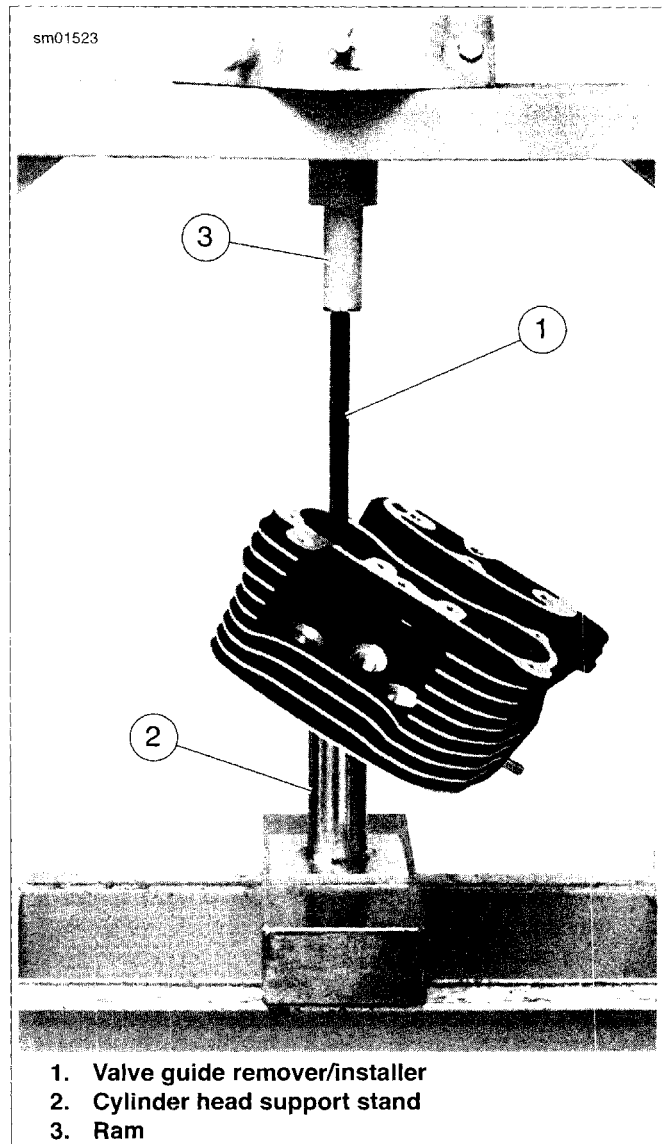

Figure 3-124. Removing Shoulderless Valve Guide
2. See Figure 3-124. At top of the cylinder head, insert VALVE GUIDE REMOVER/INSTALLER (Part No. B-45524) (1) into valve guide bore until tool shoulder contacts end of valve guide.